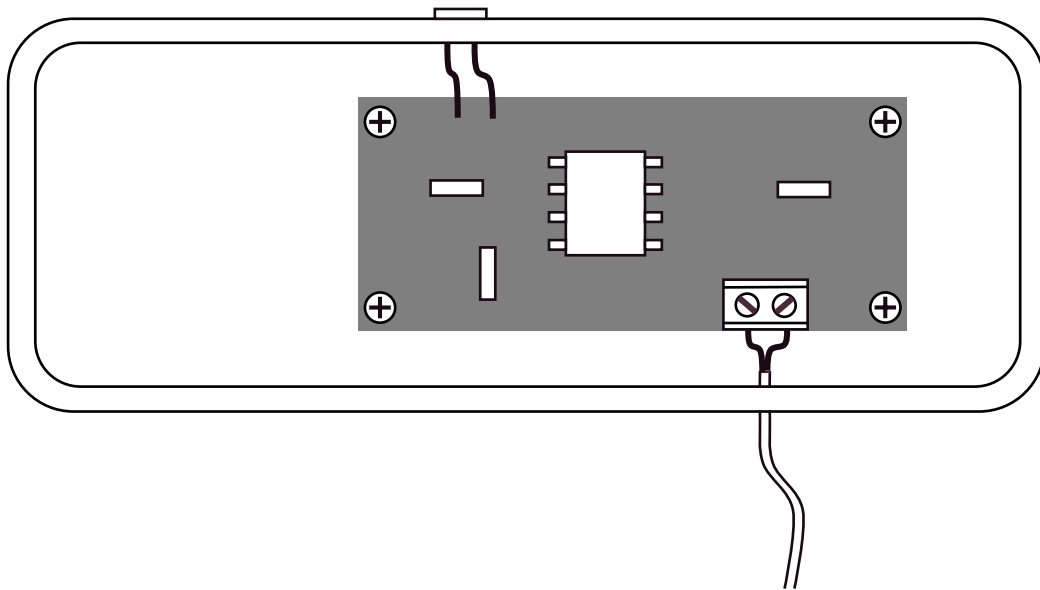

Figure 5
- b. Complete the circuit by adding the output and power to the IC. (4)
19. Figure 5 shows the interior of the base of the lamp.